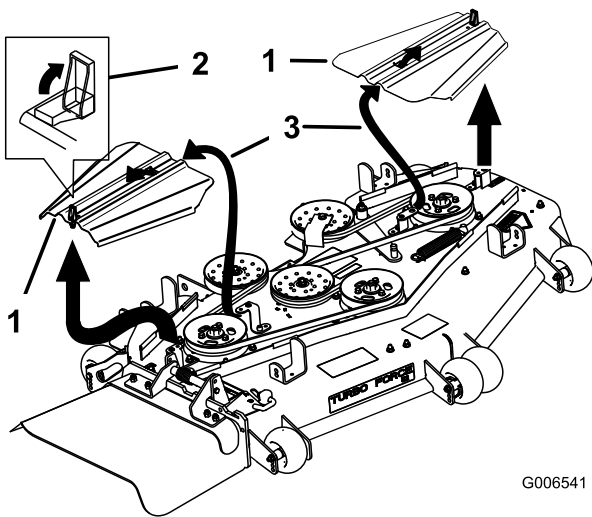

Figure 56
3. Remove the belt covers (Figure 56).